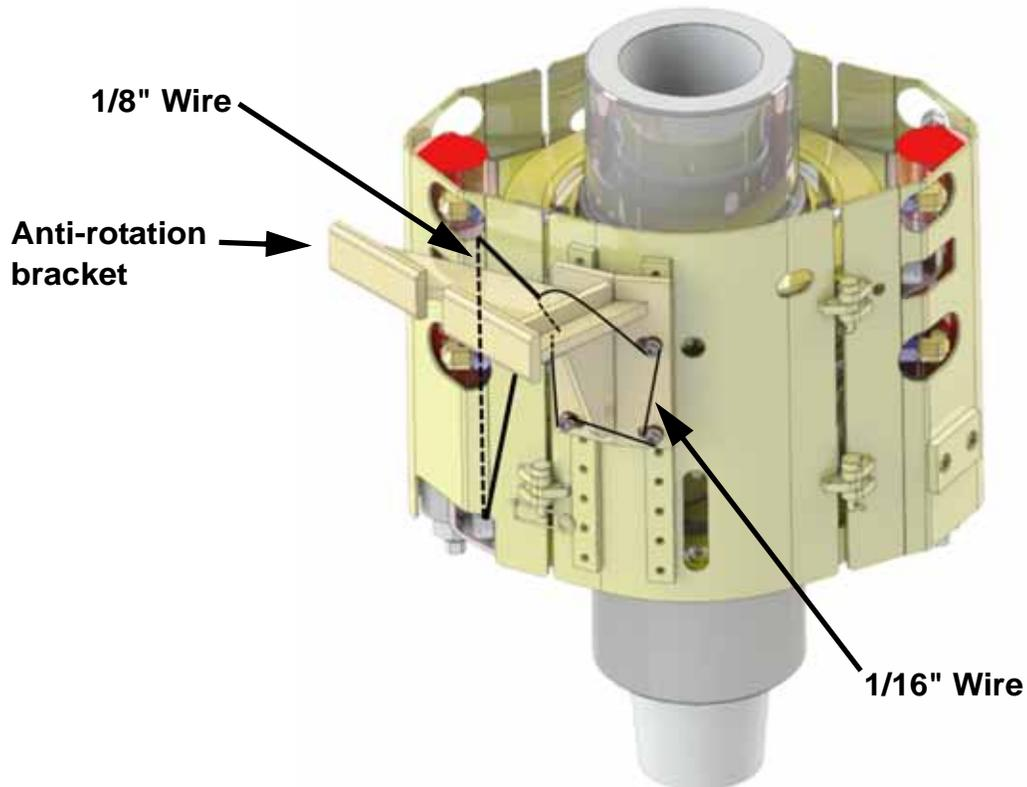

Figure 15: Secondary retention.
1. Refer to Figure 15 for illustration of secondary retention wiring.